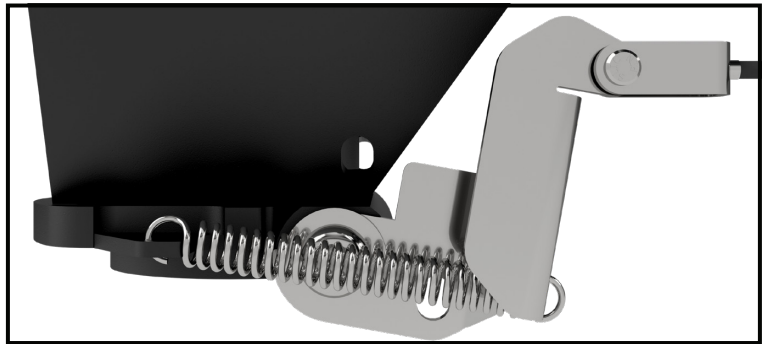

FIGURE D1: Adapter in "Un-Couple" position
3. **Open latch.** Use the pull cable to open the latch to the "Un-Couple" position, see **Figure D1**. The latch should stay open when the pull cable is released.